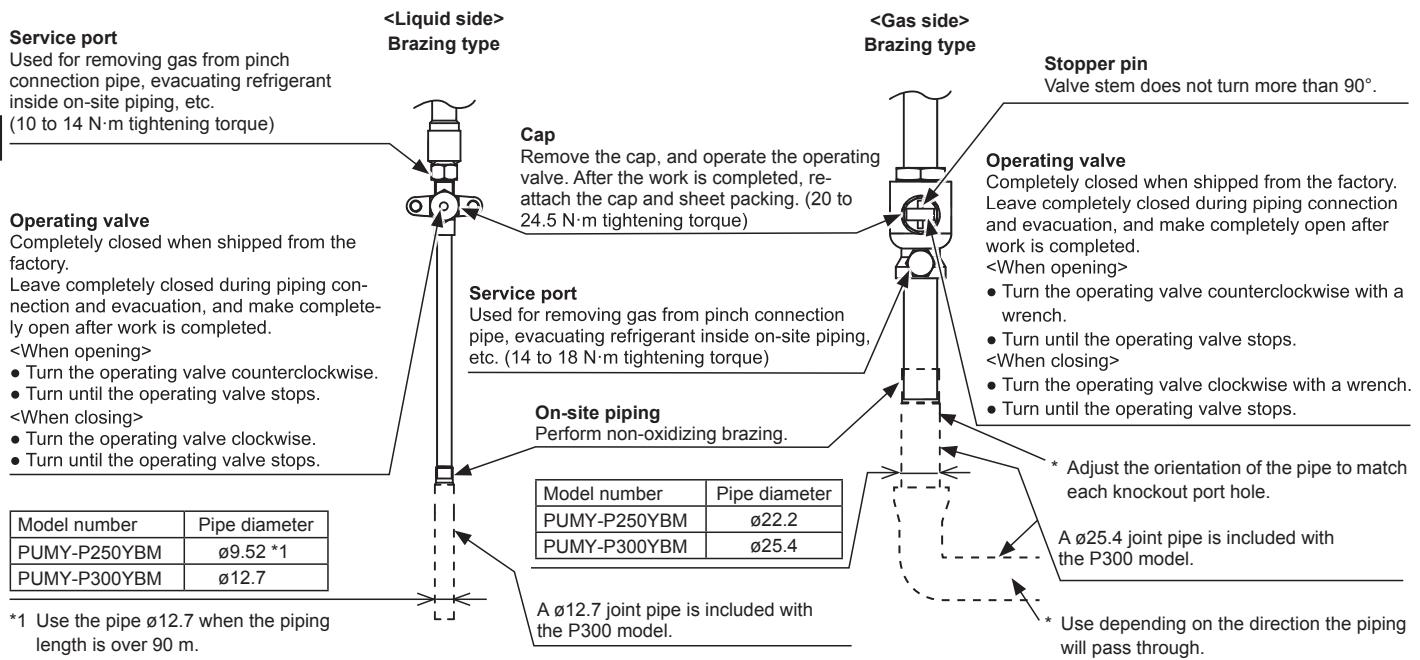

Fig. 4-13
- Install local piping on the outdoor unit side with non-oxidizing brazing. For installation details, refer to Fig. 4-13.
### 4.5.2. Piping connection and valve operation (Fig. 4-13)